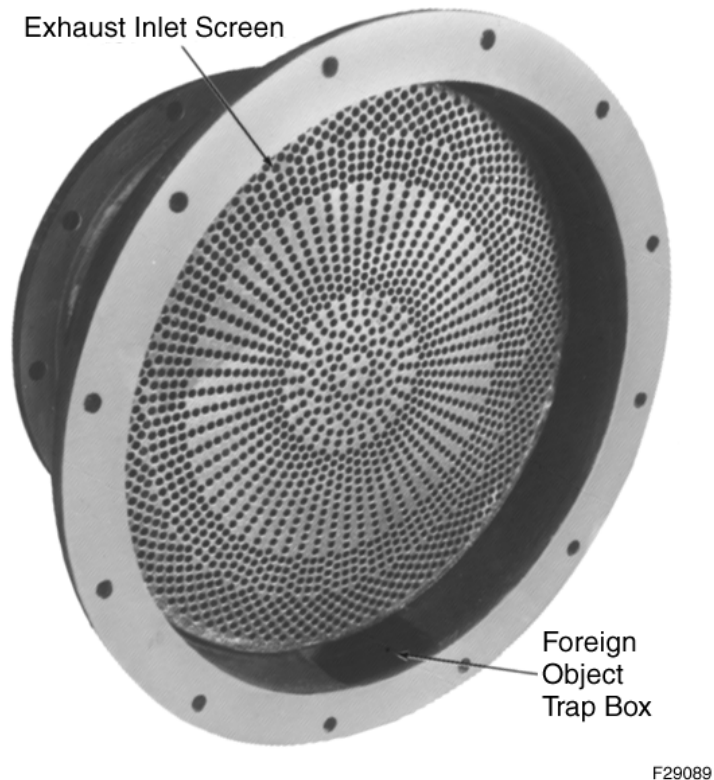

Figure 8-5. Typical Exhaust Manifold-To-Turbocharger Adapter Assembly .
3. Inspect the adapter assembly, Figure 8-5., on page 8-9, between rear expansion joint and exhaust manifold assembly for condition of exhaust inlet screen. This screen functions as a protective device for the turbocharger by minimizing the possibility of foreign material, such as broken piston rings and small exhaust valve pieces, entering the turbine and damaging the turbine vanes. Current screen designs include a small trap box at the base of the adapter assembly to remove foreign material from the exhaust flow, thereby preventing it from continuously hitting the screen and breaking into smaller pieces. If foreign material is present in the exhaust manifold or screen trap box, it is recommended that screen be magnaflux inspected.